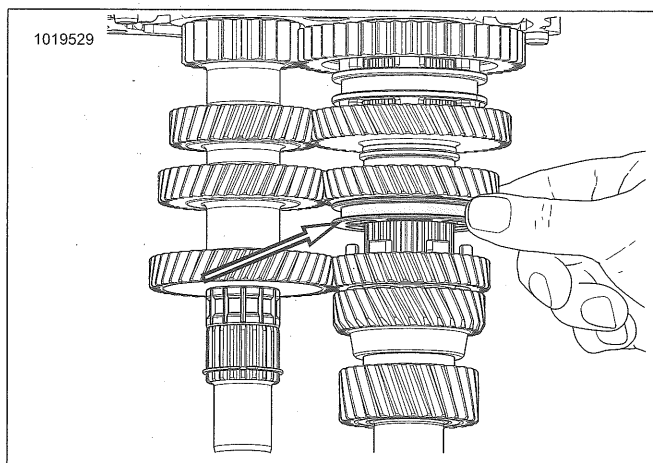

Figure 5-57. Raise and Hold Dog Ring
4. See Figure 5-57. If mainshaft is not removed, raise and hold countershaft third and fourth gear shift dog while installing countershaft.
2. See Figure 5-57. Raise and hold dog ring engaged with countershaft third gear during the press procedure.